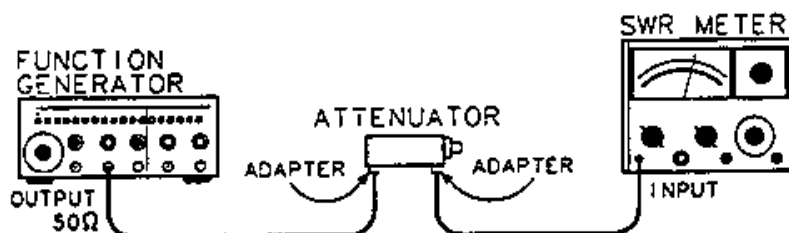

Figure 1 Operator Check Setup
1. Connect equipment as shown in Figure 1 with the attenuator set to 0 dB.